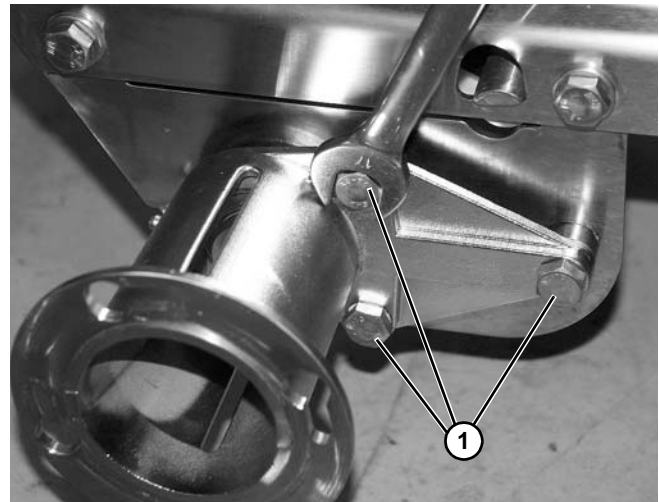

Figure 67
- Loosen three screws (**Figure 67, item 1**) securing motor mount onto side plate.